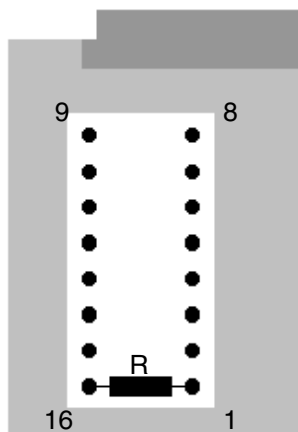

Fig 14 - Location of RT on the drive
12. Set the value of one of the 20 K multiturn fitted directly to a dil header (contained in the service pack refer to section 4.4) to the measured value of 'RT' (from step 11) and fit into SK1 of the SPA drive, refer to fig 14.